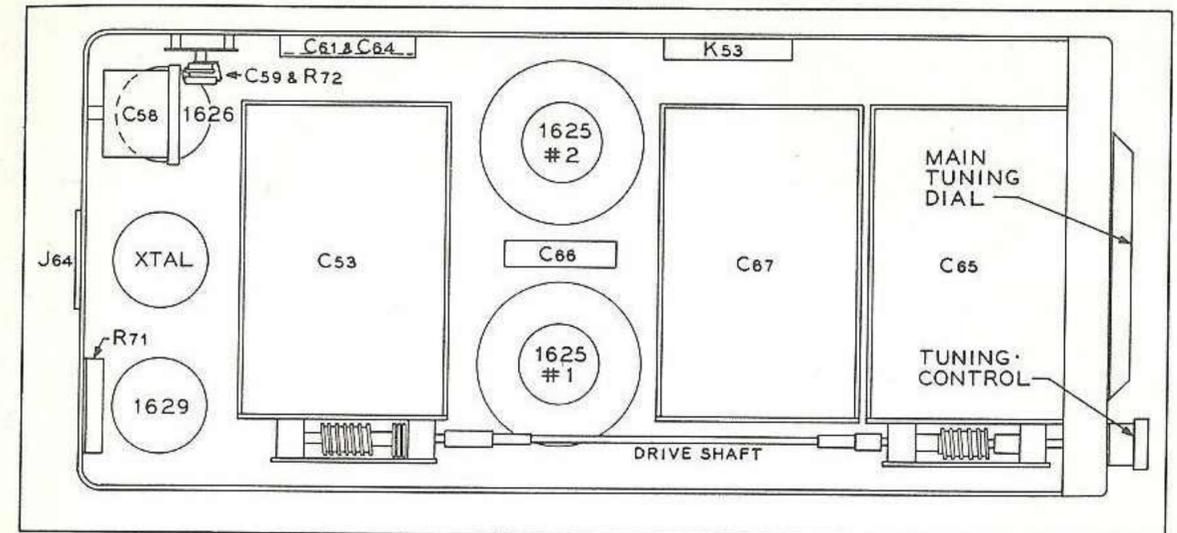

Fig. 11 Under-chassis layout of typical "Command" transmitter, showing placement of major components. Oscillator padding capacitors are atop the chassis.
- ( ) Locate pin 1 of 1625 socket #1 (see Figure 11). This pin has three white wires connected to it.